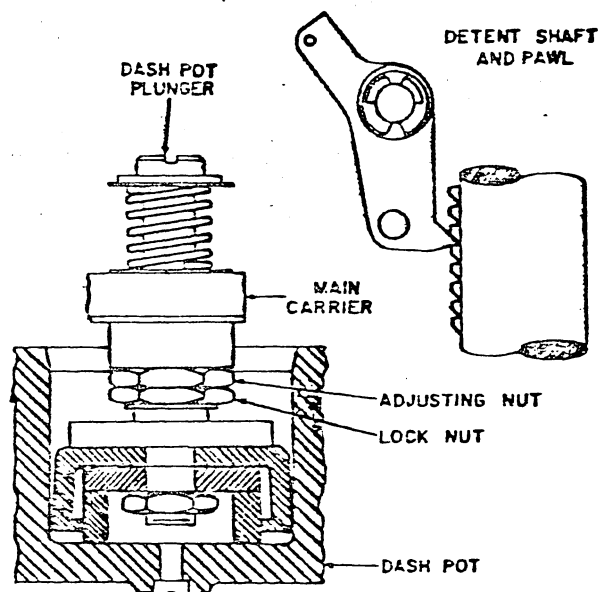

Figure 4-13. Dash Pot Plunger
2. Adjust the two thin nuts so that the detent pawl is fully engaged in the nearest tooth on the detent shaft. (Refer to Figure 4-13.) check to see